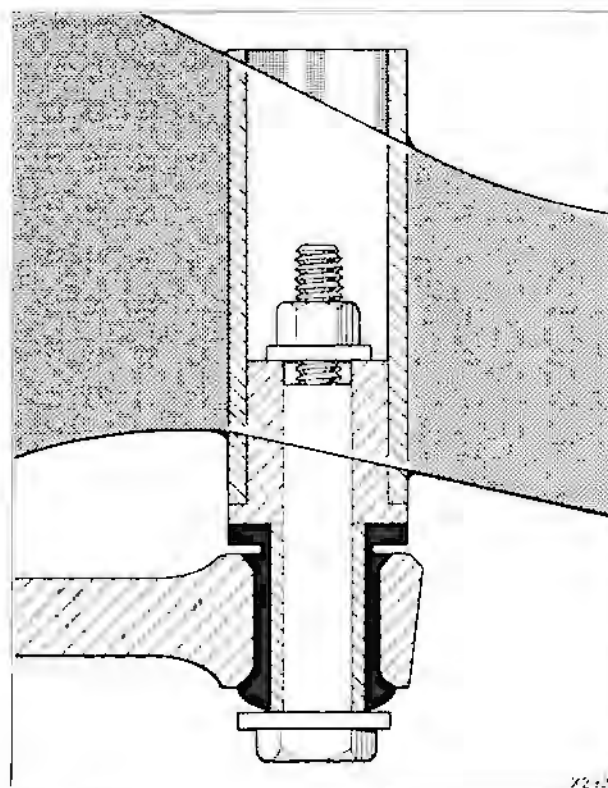

Fig. H5-2 Rear triangle lever mount
2. Assemble the rear triangle lever onto the sub-frame as shown in figure H5-2. Do not tighten the nut.